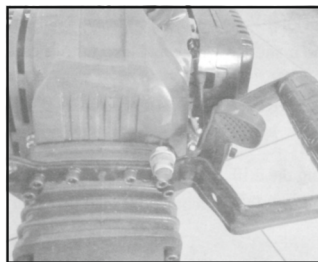

Fig. 6
2. Press the red button to stop. Stop switch see Fig. 6.